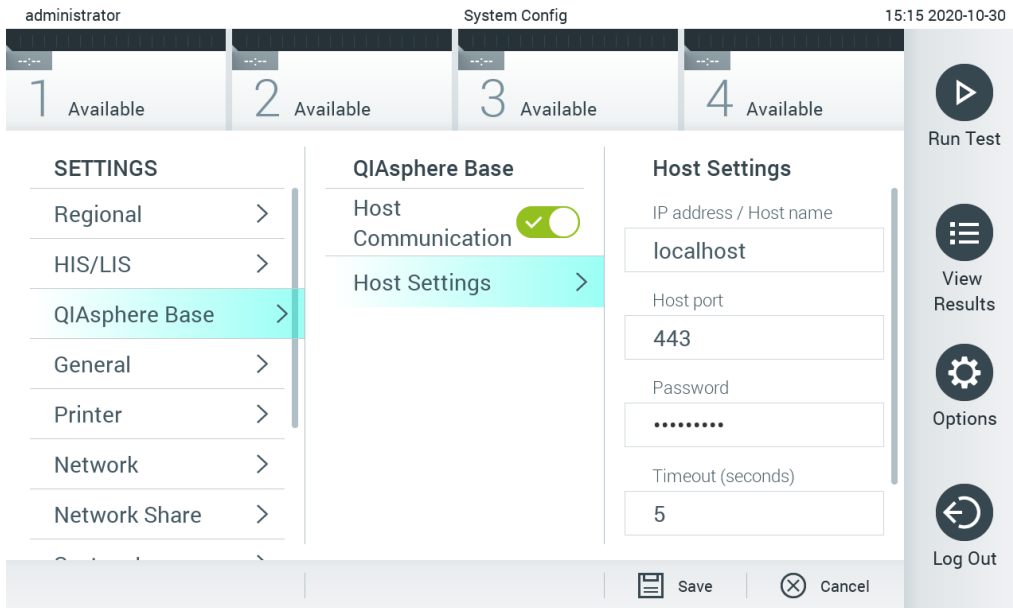

Figure 73. Configuring the QIASphere Base connection.
2. Select **QIASphere Base** from the settings list in the left column (Figure 73).